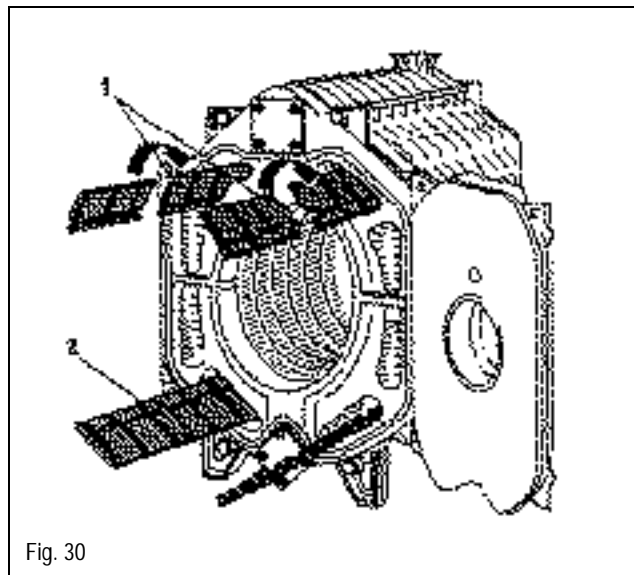
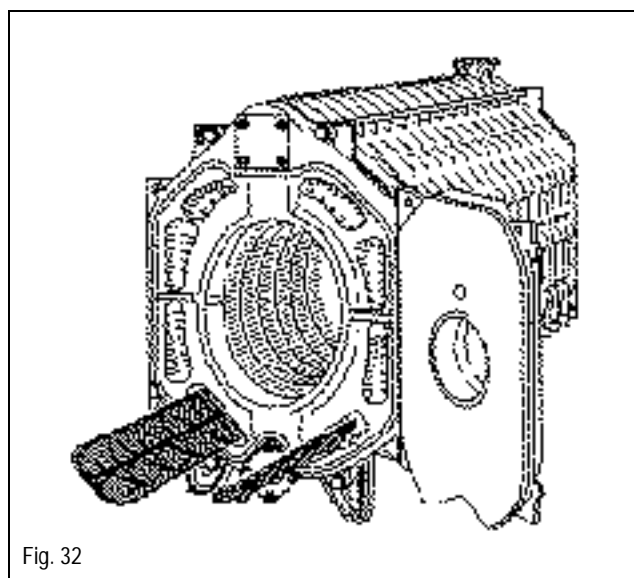

Fig. 30
Fig. 32
NOTE: The “Sichel” baffle consists of two parts that must be latched together. See Fig. 30 (1) and 31 (1) before latching, and Fig. 32 (2) after latching.